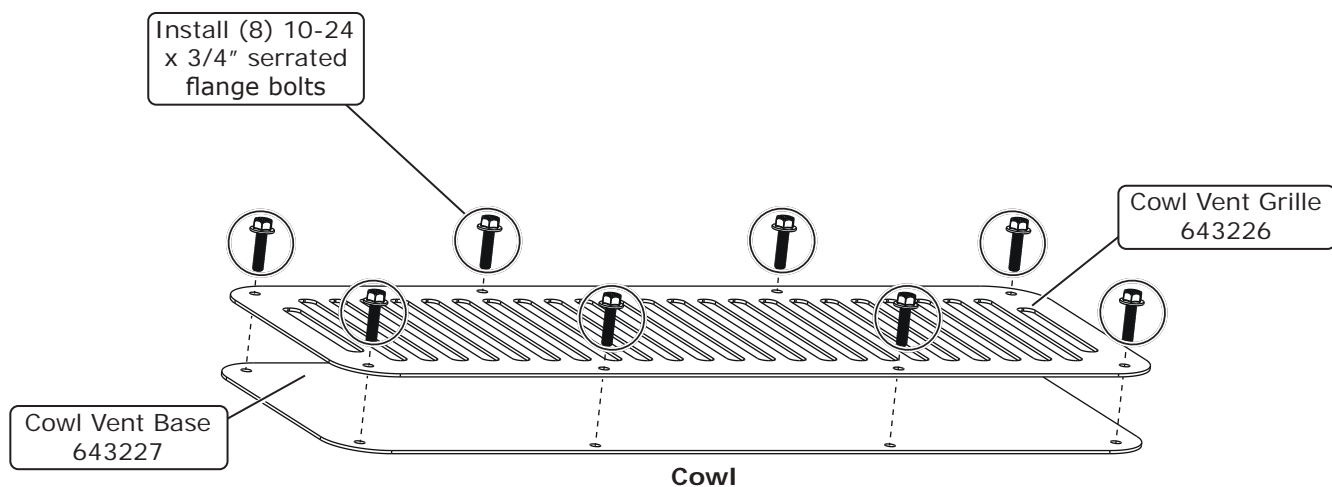

Figure 1
7. Once the silicone is applied, align the cowl vent base with the bolt holes. Then, place the cowl vent grille over the cowl vent base, and secure using (8) 10-24 x 3/4" serrated flange bolts (See Figure 1, below).